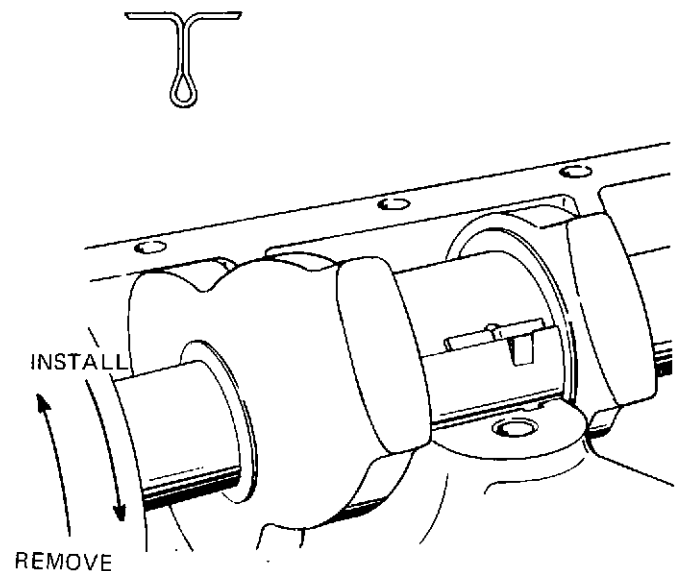

Figure 5-43. Upper Main Bearing Removal and Installation
9. To remove the upper main bearings (23, 24, 25, and 26, figure 5-35) without removing the crankshaft, insert a small tee-shaped pin in the crankshaft oil hole. Rotate the crankshaft (22) counterclockwise so that the pin will push the upper main bearing out, as shown in figure 5-43. If the crankshaft is to be removed, remove the upper bearings after removing the crankshaft.
The upper main bearings can be installed with the crankshaft in place. Install a small tee-shaped pin into the crankshaft oil hole. After starting the bearing into place, rotate the crankshaft clockwise to seat it on the cylinder block, as shown in figure 5-43.